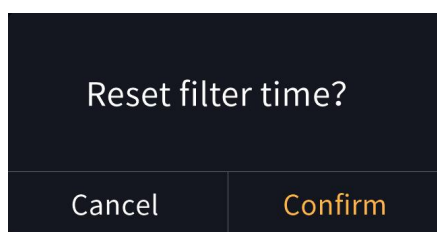

Fig.2.2.10.2
⑨ This icon is the filter timer icon;
Filter timer counter function of ventilation can be configured independently by the parameter. When disable, there will be no filter timer counter function shown on the interface, as shown in Fig.2.2.10.1; when enable, icon⑧ will be colourful after ventilation system ON, the remaining evaluation value will be displayed below to it, the value will be updated according to the use time, which will be updated through the bus.
The service life of the filter set by the parameter configuration. When the filter time reaches to the parameter setting value, the alarm state can be issued through the bus, and the remaining filter timer value can be displayed to be 0%. When touch icon⑨, the filter time can be reset, as shown in Fig.2.2.10.2 below. After clicking “Confirm”, the filter timer value can be reset to 100%.